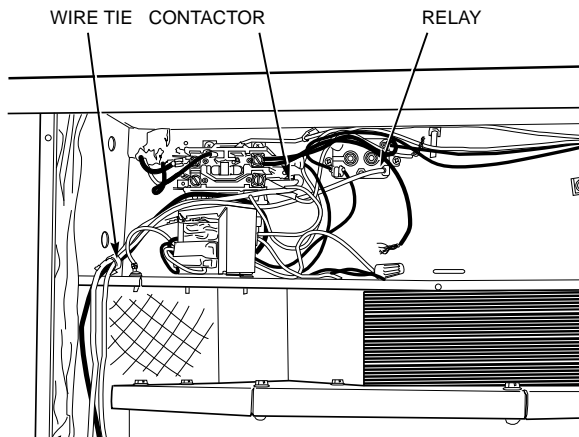

Fig. 19 — Fan Motor Leads
6. Disconnect evaporator-fan motor leads from evaporator-fan relay and unit contactor. Carefully disengage wire tie containing evaporator-fan motor leads from the unit control box (Fig. 19).
Secure using screw removed in Step 7. Reconnect evaporator-fan motor leads and insert wire tie back into unit control box (Fig. 19).